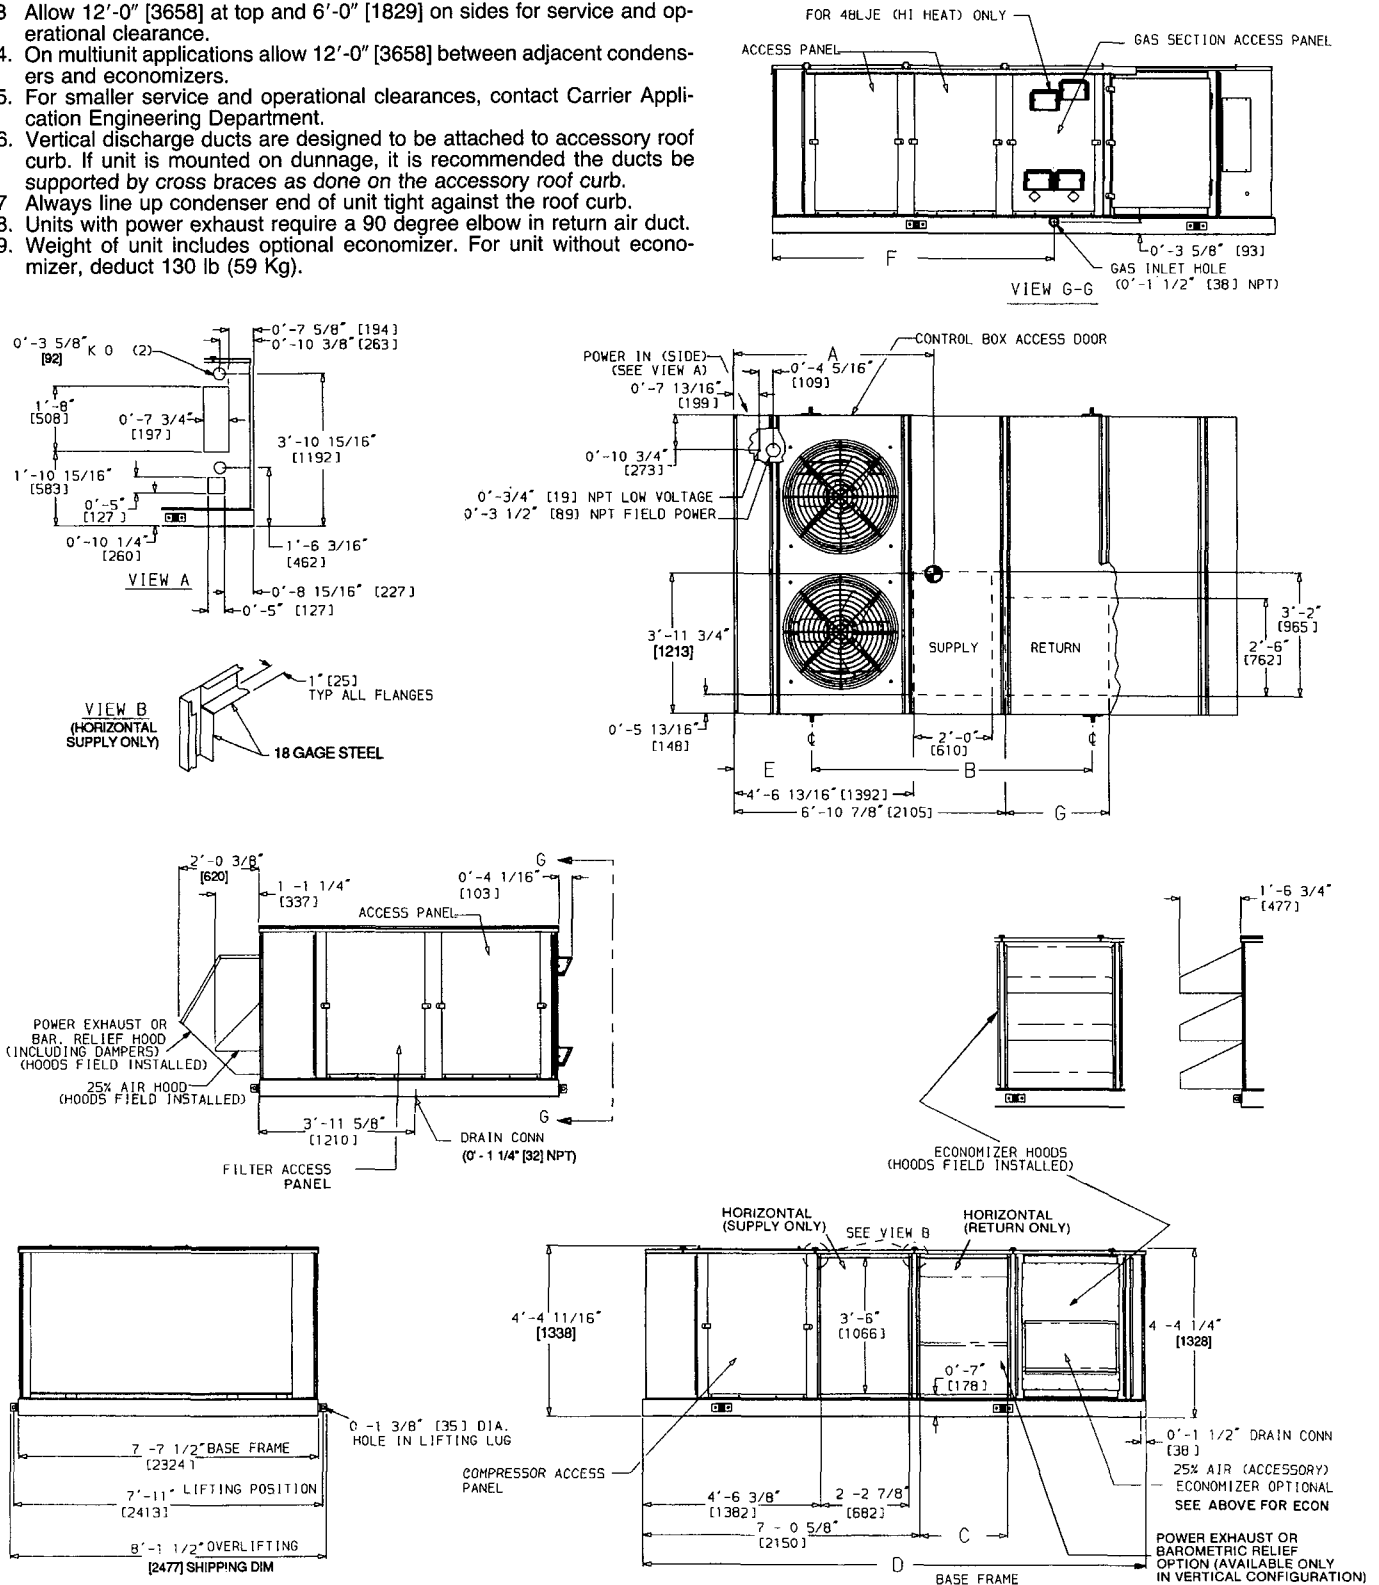

Fig. 5a - Base Unit Dimensions, 48LJ024 Units
**Condensate Drain** — See Fig. 5a - 5c for drain location. A drain assembly consisting of a 10-gage plate with 1¼ in. half coupling welded to it is shipped inside the base unit, taped to the basepan in the filter section. Open the access panel marked FILTER SECTION and find drain assembly and the 4 screws required to mount it in the left-hand corner. After unit has been set in place on the roof, remove drain assembly and attach it to the bottom of the unit base rail using the screws provided. See Fig. 4. Use a trap at least 4-in. deep and protect against freeze-up.